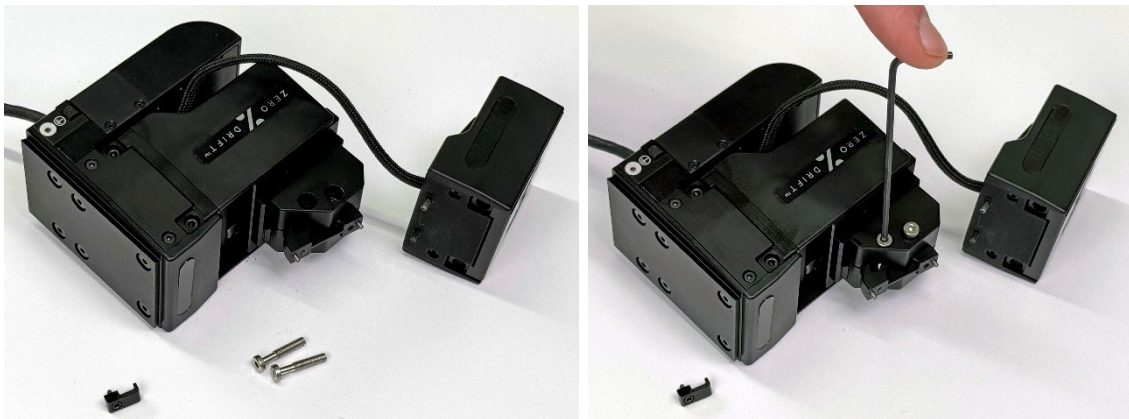

Figure 48. Insert angle adjustment locking screws.
4. After completing steps 1-3 (Figure 48, left), screw the 2pcs of angle adjustment locking screws back from the opposite side for left-handed configuration using 1.5 mm hex key. (Figure 48, right)